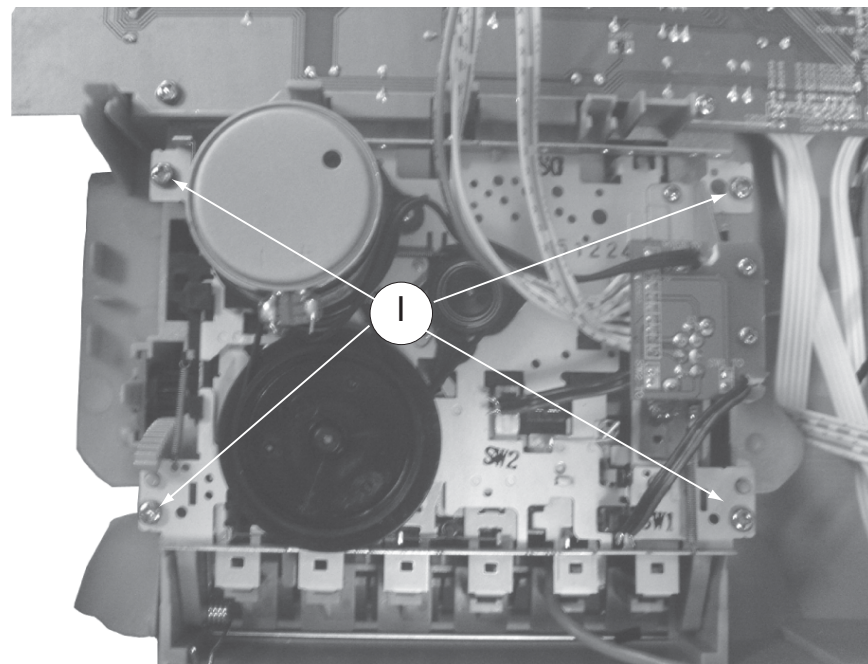

Figure 13
4) Loosen 4 screws 'I' to remove the Cassette Module figure 13.